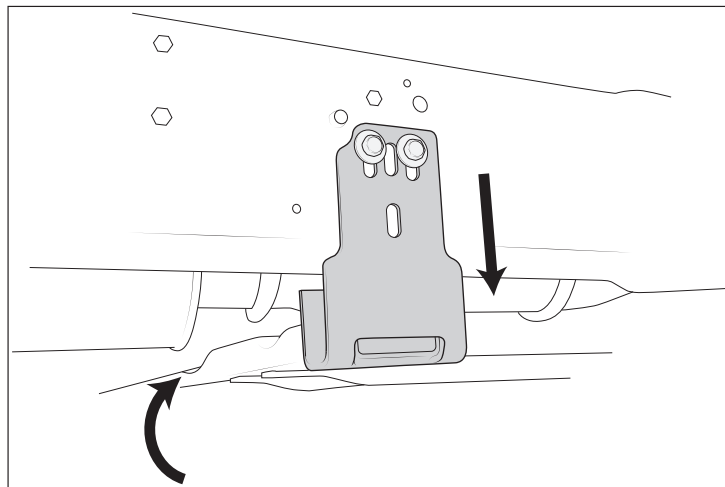

Figure 20
14. POWER WAGON ONLY – Check the clearance from the drive shaft to the skid plate. If necessary lower the skid plate brackets as shown and reconnect drive shaft (fig. 20).